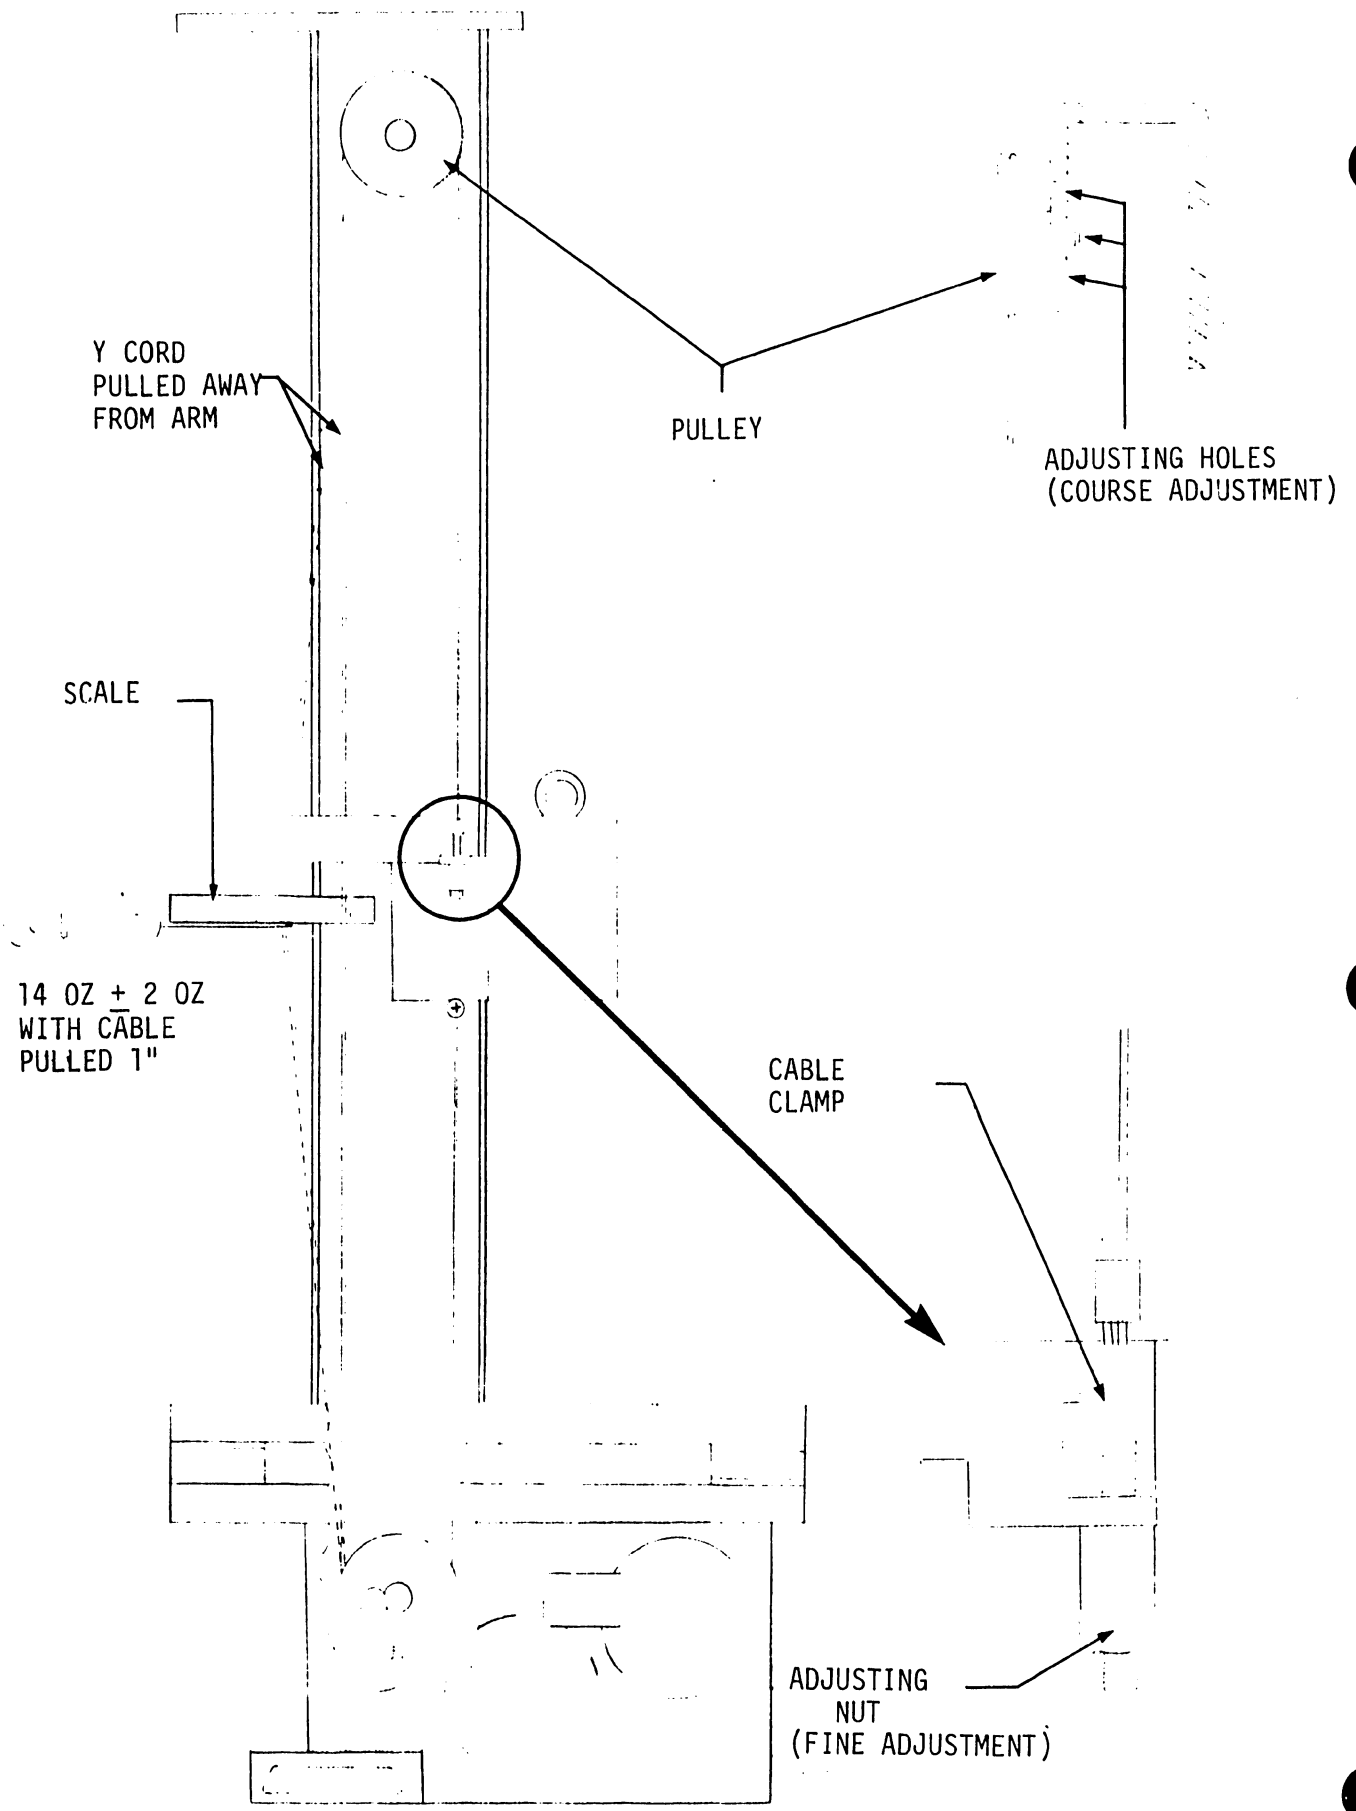

FIGURE 15
- 1) With the carrier assembly in the center of the Y arm, using a spring scale, pull the cable away from the arm. When the cable is pulled a distance of 1" (2.54) there should be a reading of 14 oz  $\pm$  2 oz (See Figure 15).